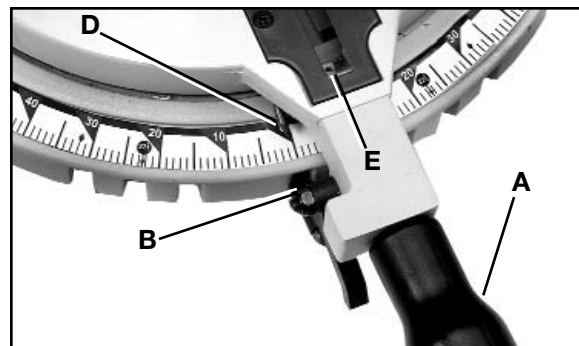

Fig. 33
8. When the cut is a 90 degree cut, loosen set screw (E) Fig. 33 and adjust pointer (D), to point to the "0" mark on the scale.